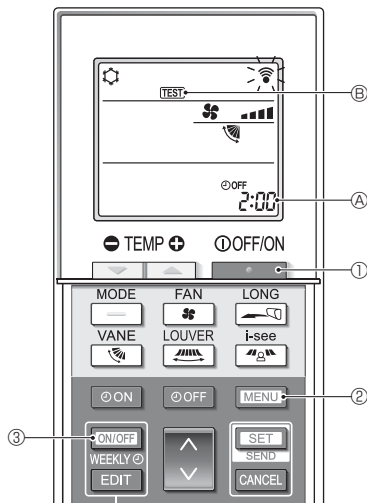

Fig. 6-1
6.1. Test run (Fig. 6-1)
- Press the **STOP** button ① to stop the air conditioner.
- If the weekly timer is enabled (**WEEKLY** is on), press the **ON/OFF WEEKLY** button ③ to disable it (**WEEKLY** is off).
- Press the **MENU** button ② for 5 seconds.
- Press the **MENU** button ②.